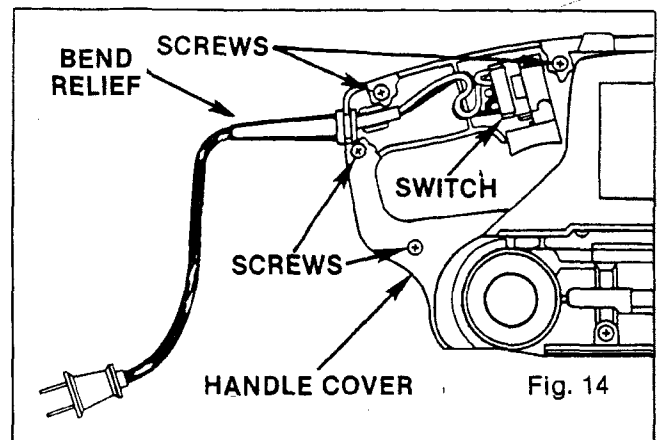

Fig. 14
1. Remove handle cover and screws as described on Page 7. Note the locations of all wiring in the handle and how each connection is made to the cord. Connections and wiring position must be identical when installing the new cord. See *Figure 14*.
5. Arrange the wiring in the handle so that it will not be pinched when handle cover and screws are replaced. Position the switch in place. See *Figure 14*.